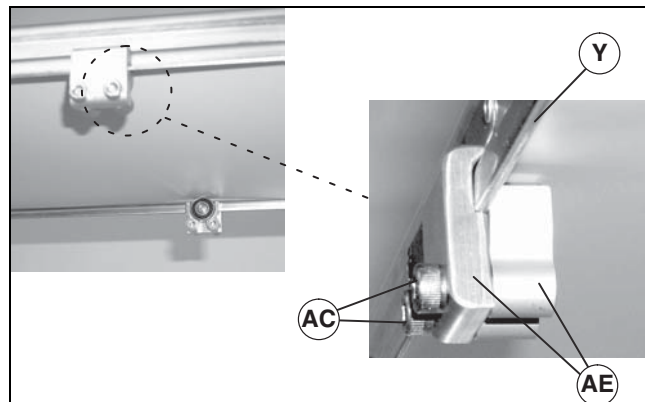

Figure 14
3. Attach return roller assembly (Figure 14, item AE) on each side of conveyor (Y). Tighten screws (AC) to 80 in-lb (9 Nm).